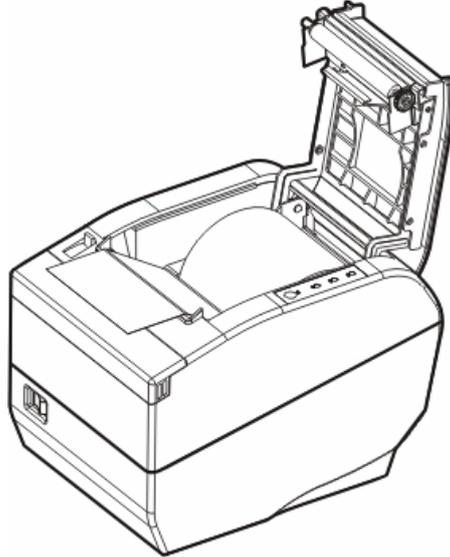

Fig 4-3 Pull out the paper
3. Pull out a small amount of paper as shown in Fig 4-3.